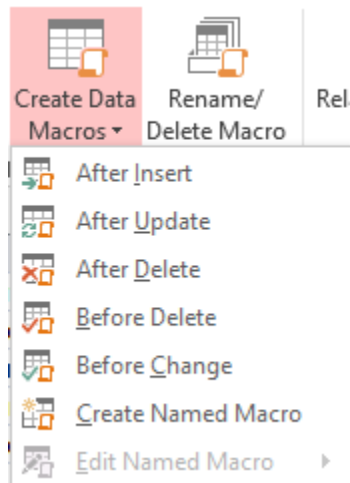
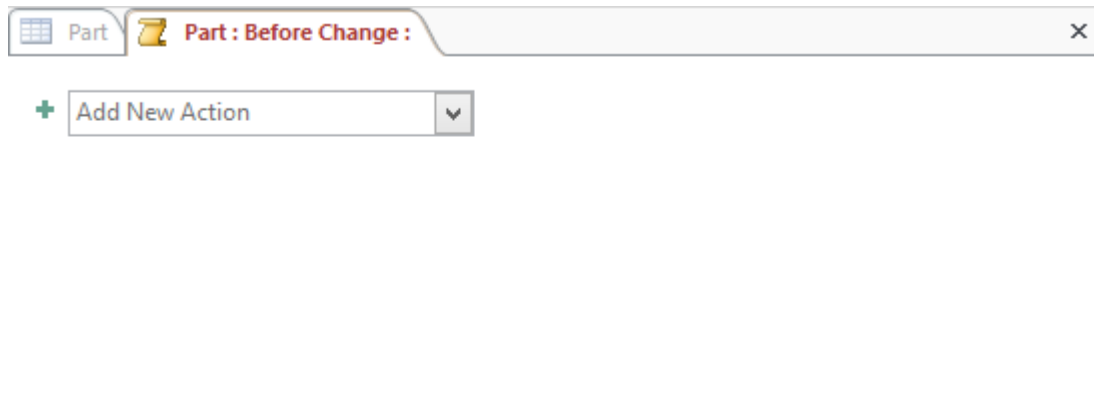

Figure 46: List of Events for Creating a Data Macro
Figure 47: Empty Tab for the Before Change Event
2. Select the *Before Change* Event: Select **Design → Create Data Macros → Before Change** in the Field, Record, & Table Events group of the dynamic Table Tools tab group (Figure 46). Before selecting the event, you can hold the mouse over the **Before Change** item to reveal its event tip. After selecting the item, a new tab is created for the *Before Change* event (Figure 47) with an empty combo box for specifying a new action.